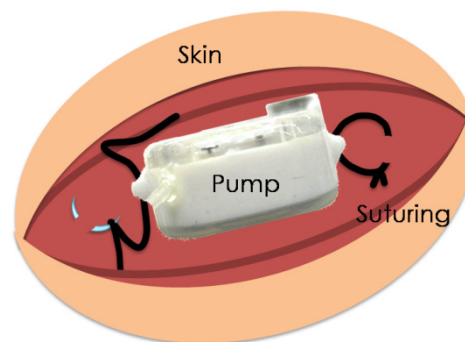

Fig.4: Subcutaneous Pump Fixation:
7. Pump Fixation ...**See Fig.4**